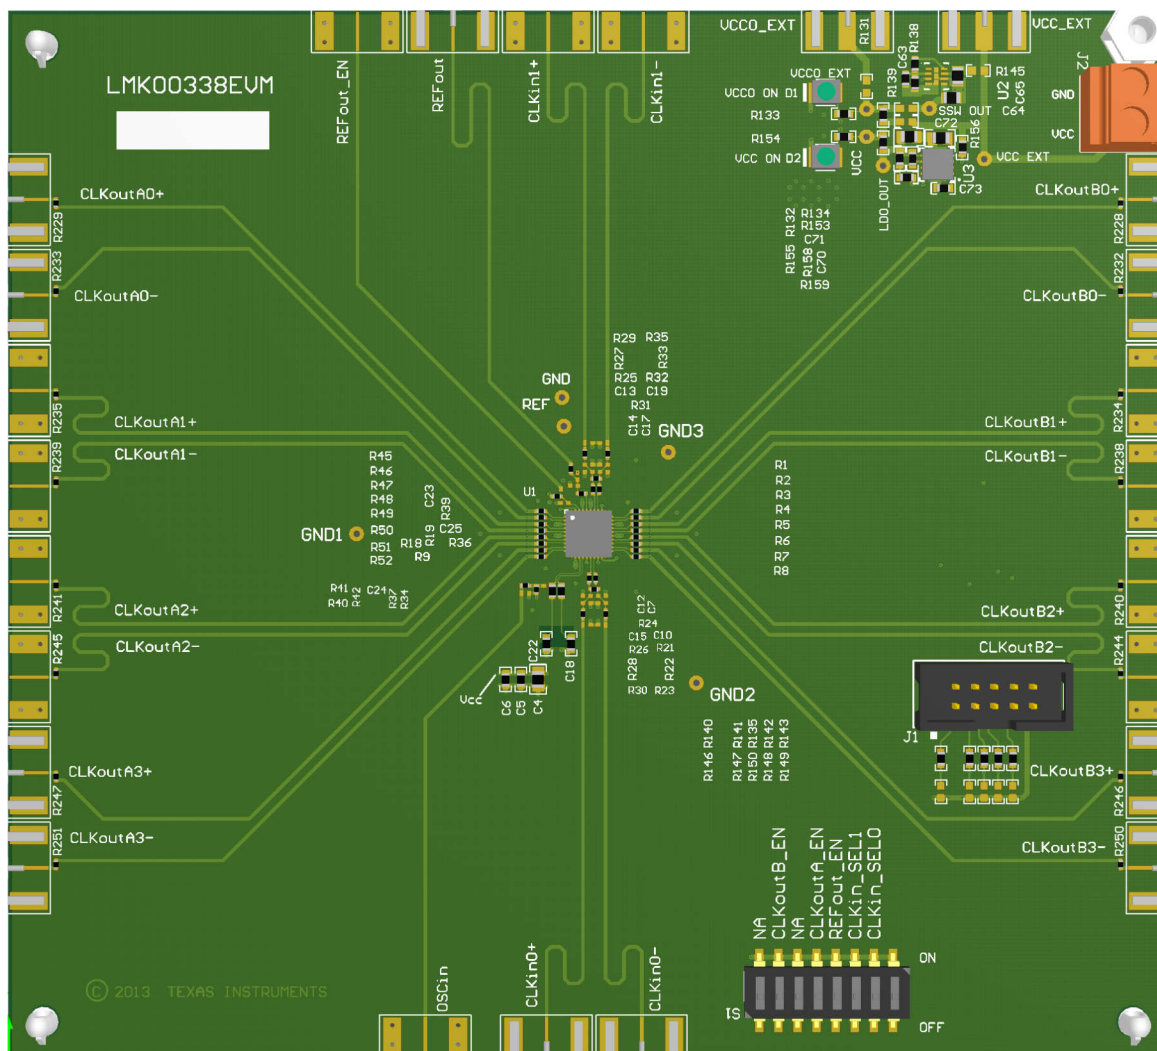

Figure 8-9. LMK00334 Layout Example
- For DC-coupled operation of an HCSL driver, terminate with 50Ω to ground near the driver output as shown in Figure 8-9.